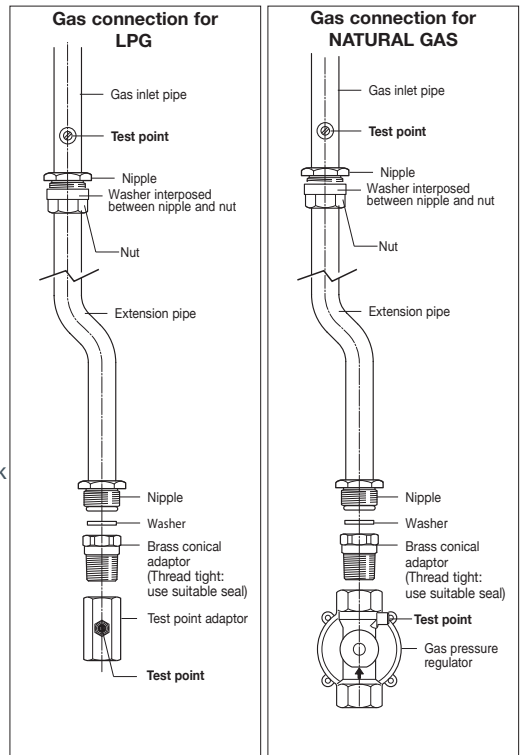

Fig. 12 Gas connection options
- Before connecting the appliance to the gas main, mount the brass conical adaptor onto the gas inlet extension pipe, upon which the washer has been placed (see Fig. 12 following).
- For Natural gas, connect the gas supply to the gas pressure regulator which is supplied with the appliance (Fig.12). Adjust the regulator to obtain a test point pressure of 1 kPa with the two triple-ring wok burners operating at the maximum.
- For LPG, connect the gas supply to the test point adaptor which is supplied with the appliance (Fig.12). Ensure that the supply pressure is regulated to 2.75 kPa.